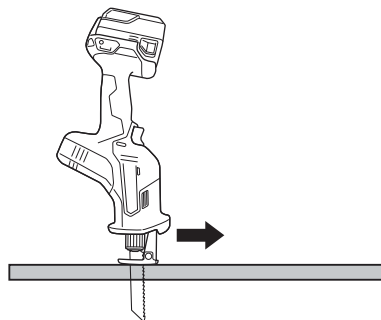

Fig. 27
- (3) Pull the switch all the way and slowly advance the saw. (Fig. 27).